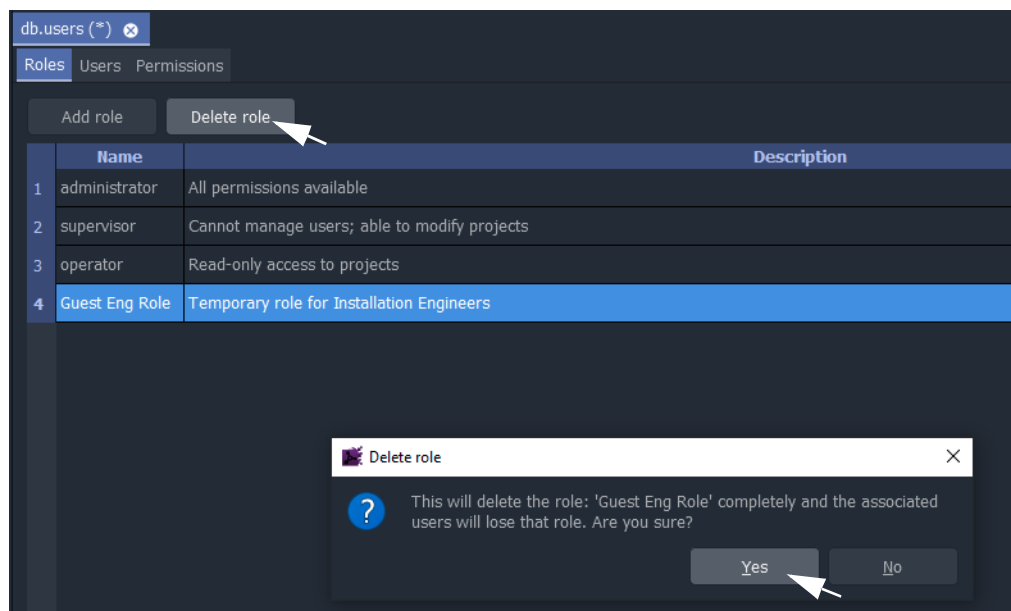

Fig. 4-13: Delete Role
- 4 Click on the **Delete Role** button, see Figure 4-13.